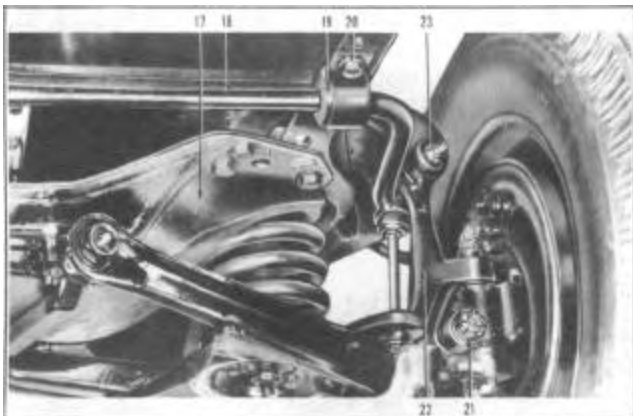

FIGURE 3
2. Hold the steering spindle support (22), Figure 3, squarely between the yoke of lower support arm (1), Figure 1.